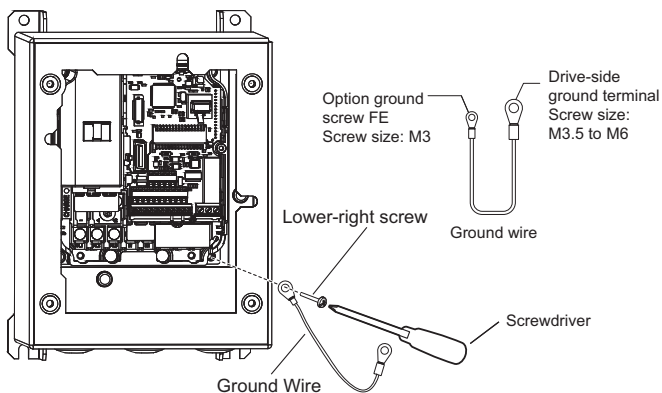

Figure 16 IP66/UL Type 4X Ground Wire Connection
- 14.** For IP66/UL Type 4X enclosure models, reattach the drive ground terminal screw according to Figure 16.